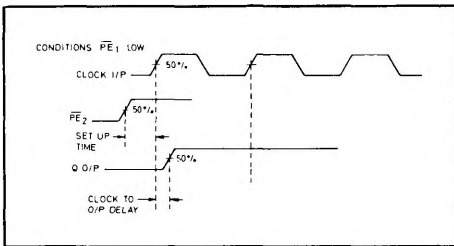

Fig. 3 Set-up timing diagram
- Set-up time is defined as the minimum time that can elapse between a L $\rightarrow$ H transition of a control input and the next L $\rightarrow$ H clock pulse to ensure that the  $\bar{2}$ 10 mode is forced by that clock pulse (see Fig. 3).